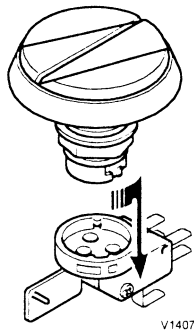

FIGURE 4 : Dual-Button Switch Removal
14. When locate the new dual-button switch. Remove the switch body by twisting to the right and removing (see Figure 4). Also, remove the retaining ring.